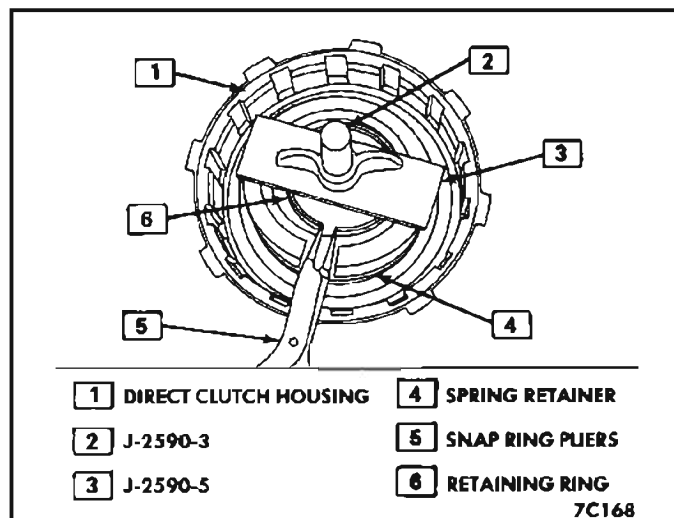

Figure 57 Piston Snap Ring
8. Remove direct clutch piston return spring seat retaining ring and spring seat by using Tools J-2590-3, J-2590-5 and snap ring pliers. *See Figure 57.*
4. Install spring retainer and springs. Compress spring retainer and install retaining ring, use Tools J 2590-3 and J-2590-5. *See Figure 57.*